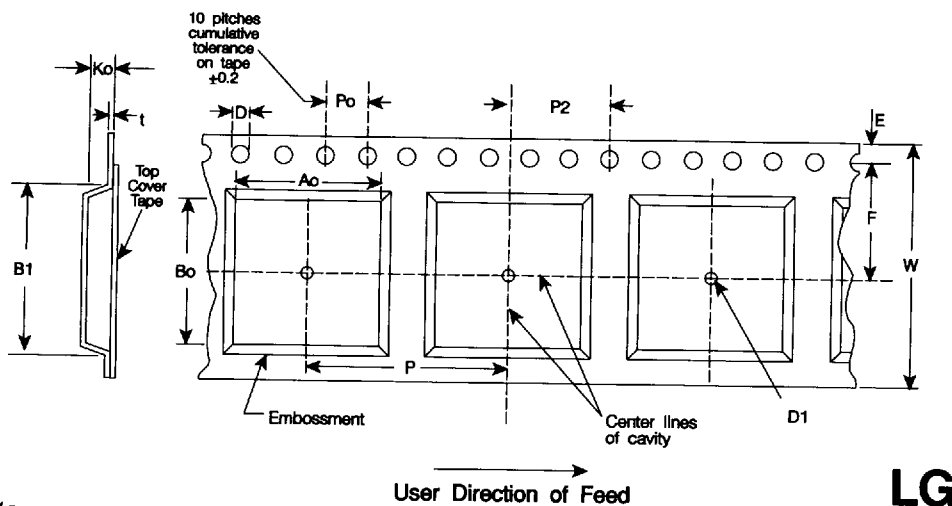

Fig.1a
2. Dimensions (Refer to Figures 1a, 1b and 1c)